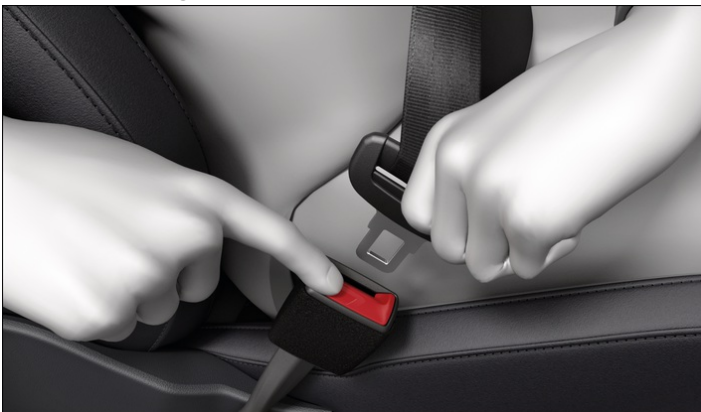

Fig. 2 Removing the latch plate from the buckle (illustration).
1. Press the red button in the buckle → Fig. 2.